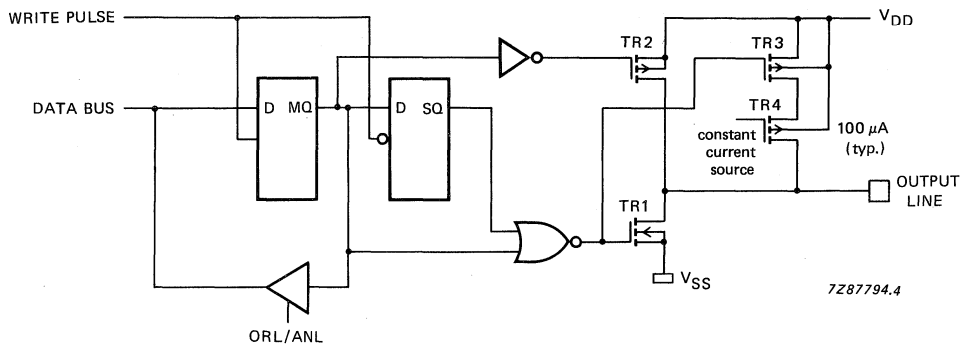

Fig. 12 Push-pull output.
- Option 3 —PUSH-PULL OUTPUT; drive capability of the output will be  $1.5 mA$  (typ.) at  $V_{DD} = 3 V$  in both polarities. To avoid a large current flowing through the output transistors during the input mode, these push-pull pins must be used only as outputs (Fig. 12).